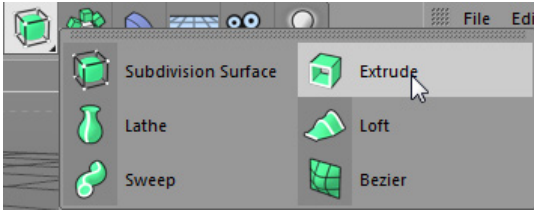

Figure 2-14 *Choosing Extrude from the flyout*
5. Press F1; the Perspective viewport is maximized. Press and hold the left mouse button on the **Subdivision Surface** tool in the Command Palette; a flyout is displayed. Next, choose **Extrude** from it, as shown in Figure 2-14; *Extrude.1* is added to the Object Manager. Next, drag *keyhole* on *Extrude.1* in the Object Manager; *keyhole* is connected to *Extrude.1*.